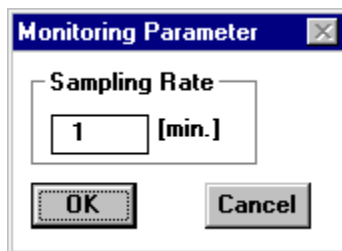

Figure 4.7 Monitoring Parameter Panel
3. On the Remote Copy Monitoring panel, select the **Monitor** menu, and then select **Start**. The Monitoring Parameter panel opens (see Figure 4.7).